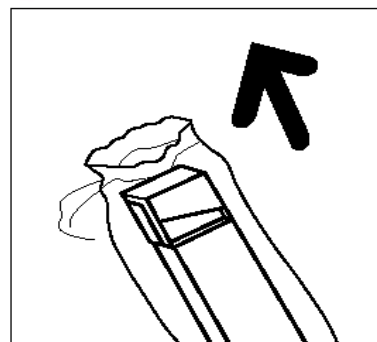

Figure 18: Removing the new Dry Ink Waste Container from the bag
- 6** Remove the new Dry Ink Waste Container from the box and bag, as illustrated in Figure 18.